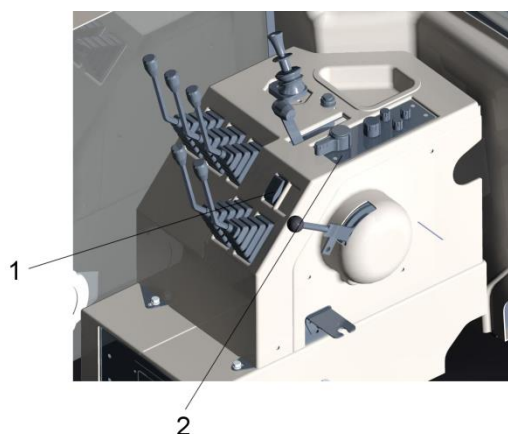

Fig. 3 Hydraulics board
- to activate and unlock the control system you have to set switch 1 (fig. 3) to On position (press the symbol), and put handle 2 (fig. 2) into operation position once (lifting up or lowering down). At the same time, diagnostics indicator 9 goes out.
After the engine is started and the system is activated using switch 2 (fig. 3), when an error is found in the system, diagnostic indicator 4 starts producing code information related to such error and blocks the system, if required.